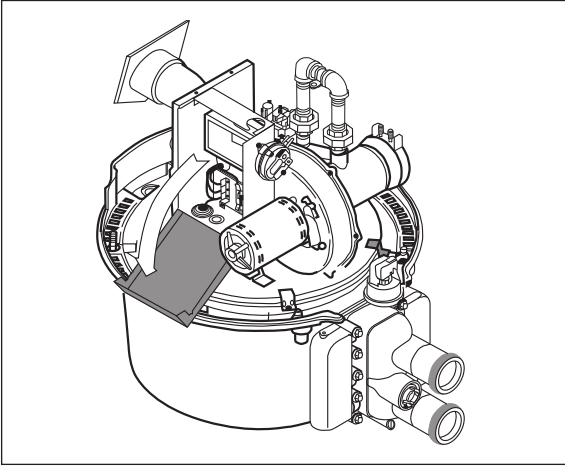

Figure 3-18
3. Open control box cover. (See Figure 3-18.)